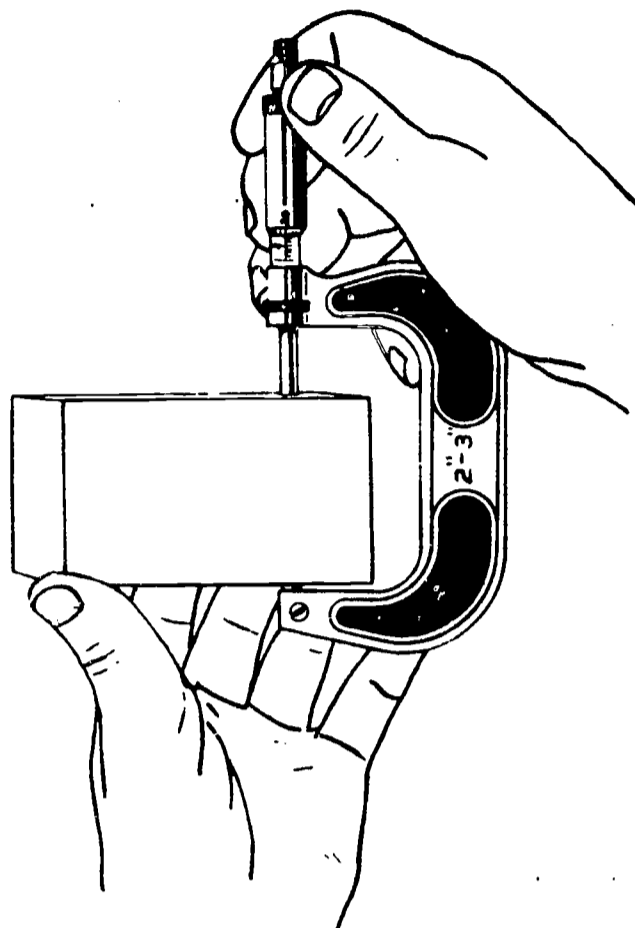

Fig. 10 Holding micrometer to measure work held in hand.
2. Hold the piece to be measured in the left hand and the micrometer in the right hand as shown in Figure 10.